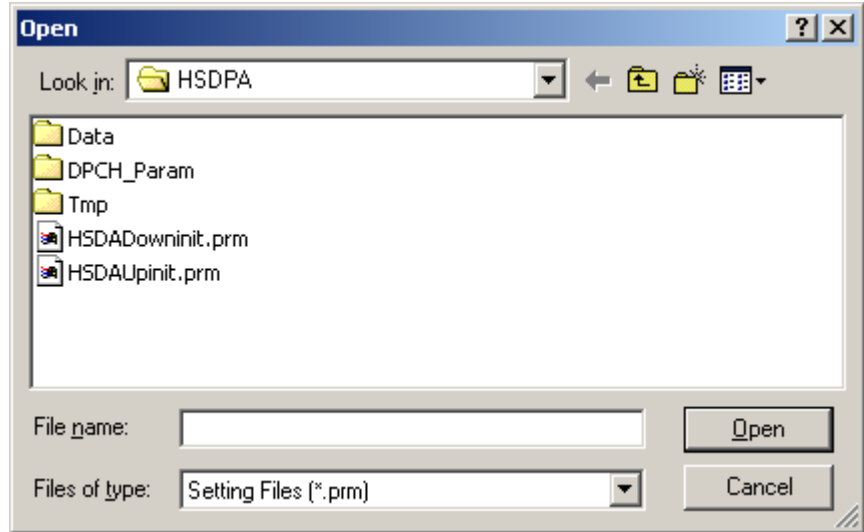

Figure 4.11.5-2 Parameter File Reading Dialog Box
- (1) Select **Recall Parameter File** from the **File** menu or click the  tool button to display the parameter file reading screen shown in Figure 4.11.5-2 above.
- (2) Select a parameter file to be read from the file list, and then click the **Open** button to read the selected parameter file.